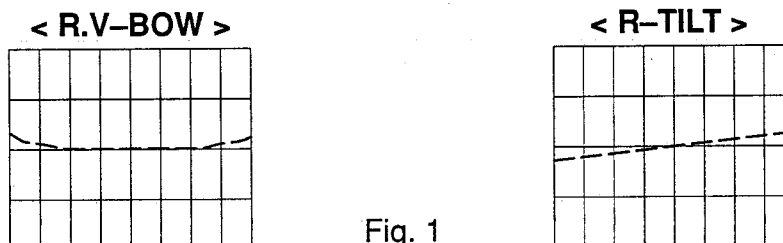

Fig. 1
- (11) Since green (G) is the reference colour for this set, dynamic convergence adjustment should be done with green (G) at first.
- (12) Do adjustment for horizontal linearity and static convergence with a variable resistor R7306, in case it is necessary.
- (13) After finishing these procedures, do adjustment for static convergence.
- (14) Next, do the adjustment for dynamic convergence of red (R) to overlap on the green (G).
- (15) If the dynamic convergence of red (R) is unable to overlap well on the green (G) as shown in Fig 1, do the adjustment for each variable resistor R7326 (R.V-BOW) and R7323 (R-TILT).